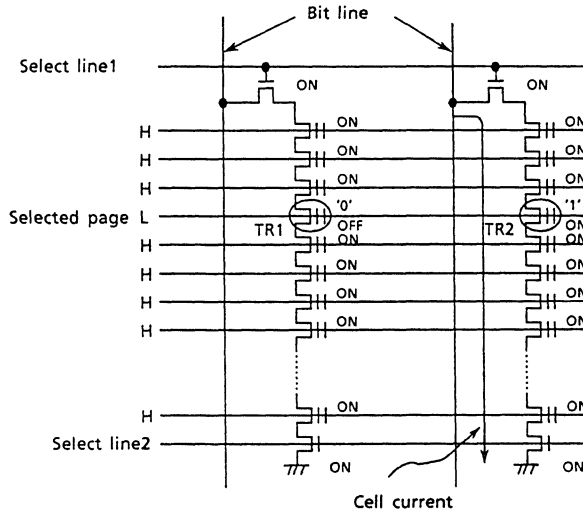

Figure 20. TC5832FT Read Device Physics
Figure 20 shows the memory cell and details of the read operation:
- (1) Select lines 1 and 2 in the block including the selected page are biased at a high level so that the 16 NAND memory cell array is connected to the bit line and ground.
- (2) Zero volts is applied to the control gates of the selected page and a high level voltage is applied to the control gates of the unselected pages.
- (3) In Figure 20, transistor TR2 with data "1" turns on, transistor TR1 with data "0" turns off, and all other unselected transistors turn on.
- (4) The precharged bit line tied to TR2 is discharged through TR2 as cell current flows to ground while the precharged bit line tied to TR1 remains at a high level because current does not flow. The sense amplifiers tied to the bit lines thus sense the voltage levels as "1" and "0" respectively.